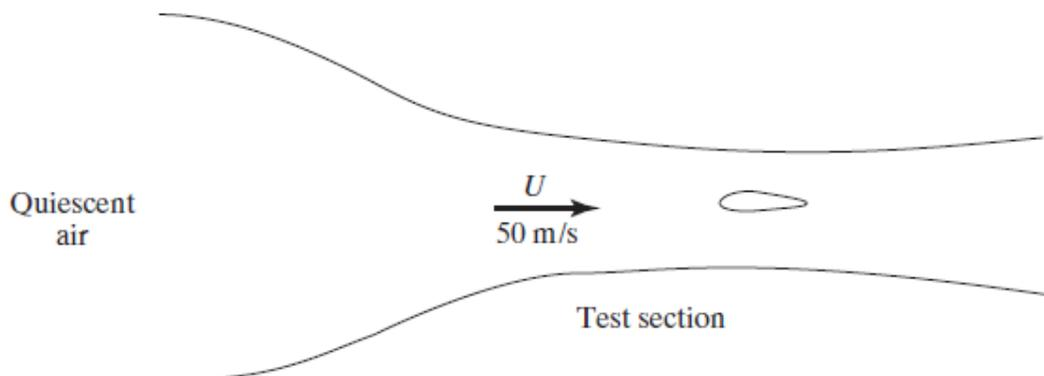

Fig. 4.
9. An in-draft wind tunnel (Fig. 4) takes air from the quiescent atmosphere (outside the tunnel) and accelerates it in the converging section, so that the velocity of the air at a point in the test section but far from the model is 60 m/s. What is the static pressure at this point? What is the pressure at the stagnation point on a model in the test section? Use Tables at the end of this assignment to obtain the properties of the ambient air, assuming that the conditions are those for the standard atmosphere at sea level.